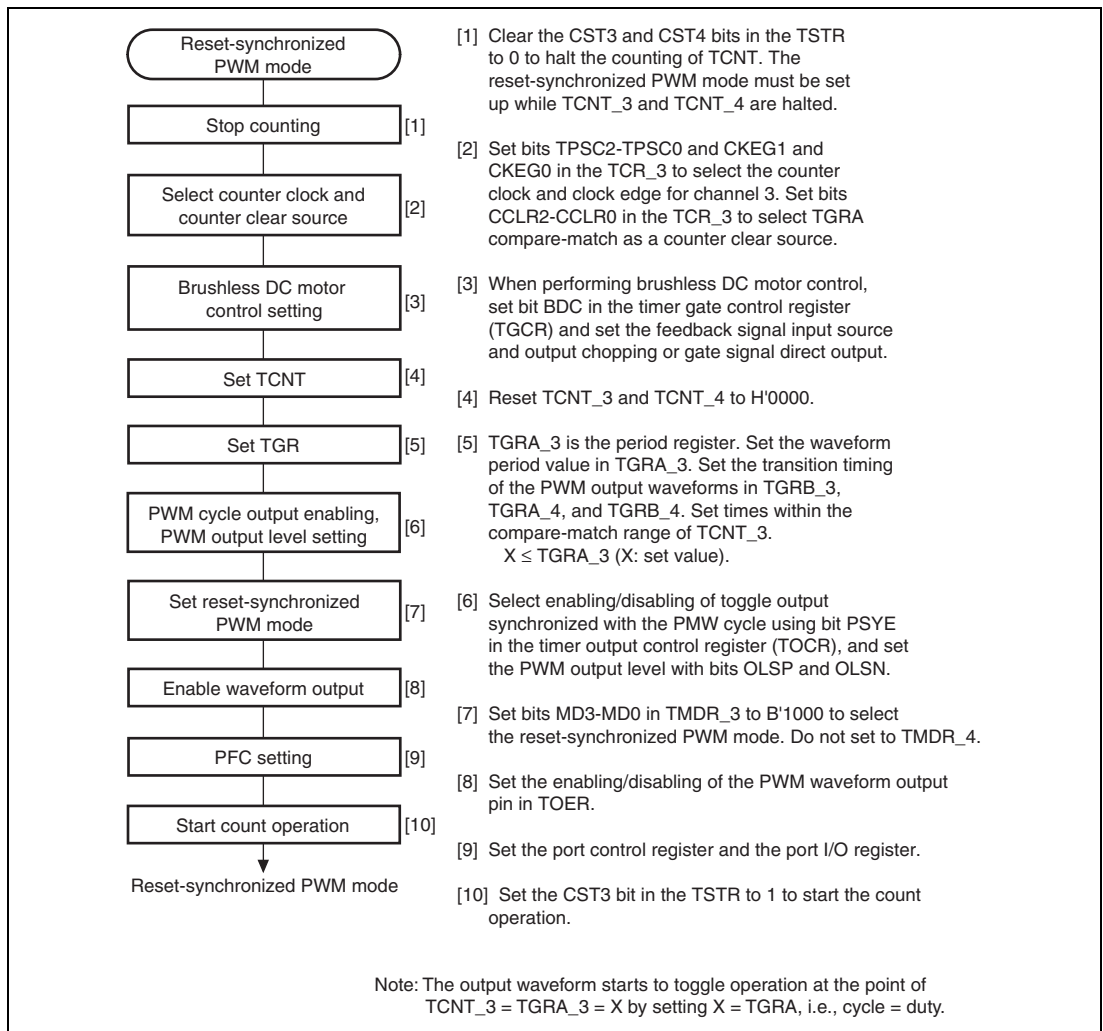

**Figure 11.30 Procedure for Selecting Reset-Synchronized PWM Mode**
**Procedure for Selecting the Reset-Synchronized PWM Mode:** Figure 11.30 shows an example of procedure for selecting the reset synchronized PWM mode.